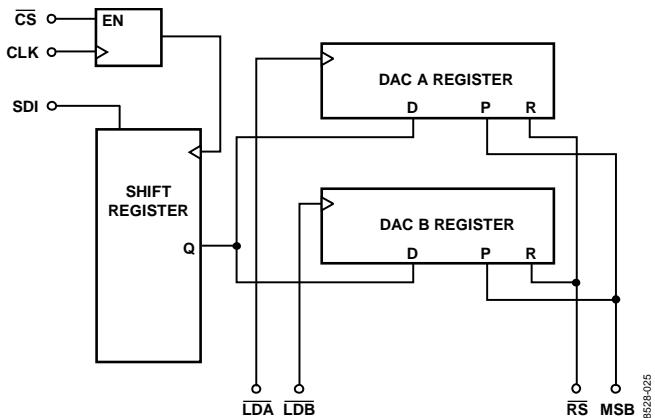

Figure 22. Equivalent Digital Interface Logic
The AD7394 has a serial data input. A functional block diagram of the digital section is shown in Figure 22, while Table 2 contains the truth table for the logic control inputs. Three pins control the serial data input register loading. Two additional pins determine which DAC receives the data loaded into the input shift register. Data at the SDI is clocked into the shift register on the rising edge of the CLK. Data is entered in the MSB-first format. The active low chip select (CS) pin enables loading of data into the shift register from the SDI pin. Twelve clock pulses are required to load the 12-bit AD7390 DAC shift register. If additional bits are clocked into the shift register, for example, when a microcontroller sends two 8-bit bytes, the MSBs are ignored (Table 6). When CS returns to logic high, shift register loading is disabled. The load pins LDA and LDB control the flow of data from the shift register to the DAC register. After a new value is clocked into the serial-input register, it is transferred to the DAC register associated with its LDA or LDB logic control line. Note, if the user wants to load both DAC registers with the current contents of the shift register, both control lines LDA and LDB should be strobed together. The LDA and LDB pins are level-sensitive and should be returned to logic high prior to any new data being sent to the input shift register to avoid changing the DAC register values. See Table 2 for a complete set of conditions.